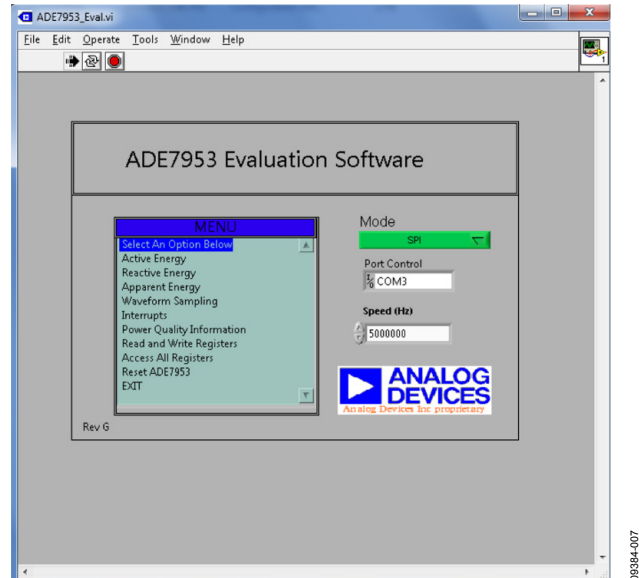
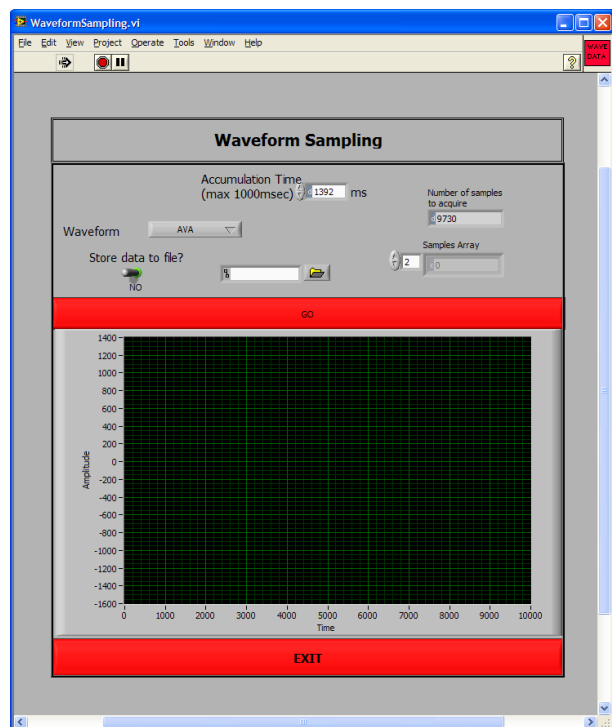

Figure 7. Main Window
Figure 14. Waveform Sampling Window
When the evaluation software is running, it should automatically detect the COM port that the **ADE7953** interface board is connected to. If the port detection is successful, the COM port number appears in the **Port Control** field, as shown in Figure 7 (COM3 in this example).
- Click **Yes** to return to the main window (see Figure 7).
The **ADE7953** evaluation software allows access to all registers and features of the **ADE7953** using SPI, I²C, or UART communication. The communication mode and speed should be set in the main window (see Figure 7). The menu options available are
These options provide access to all internal registers and allow the evaluation of **ADE7953** performance. To access these functions, click the desired option in the **MENU** box (see Figure 7).
The **Waveform Sampling** window is available from the **MENU** box. The **Waveform Sampling** window is shown in Figure 14. To use the **Waveform Sampling** window, SPI must be selected as the communication interface (see Figure 7).